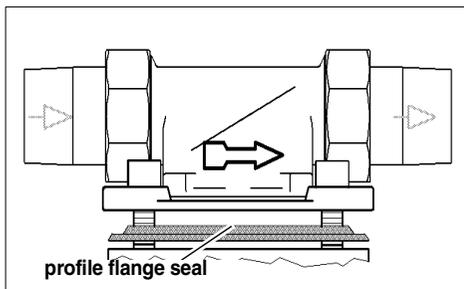

Fig. 5: Fitted Rotating Flange
**The fitted rotating flange should be installed in the direction of the water flow. This is marked by the arrow (please refer Fig. 5:).**
The profile of the profile flange seal should point towards the fitted rotating flange. If this is not the case leaks may result and water may escape. This may result in flooding and damages to the house, furniture or other household equipment (see Fig. 5).